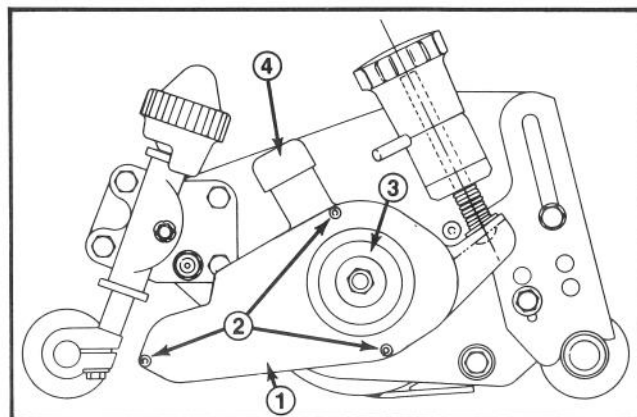
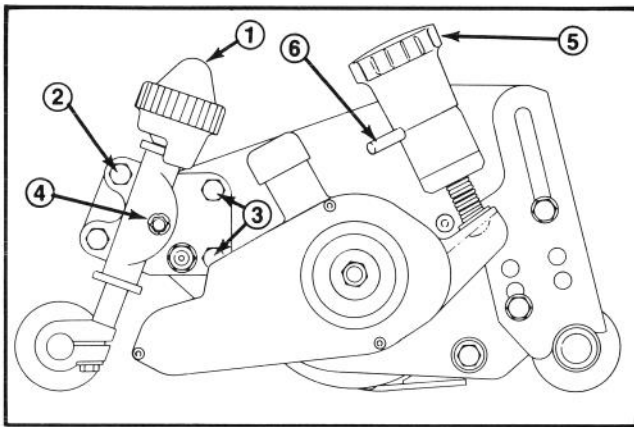

Figure 17
Figure 18
- 2. Belleville washers (2)
14. Install the left housing cover and secure with (3) socket head screws and lockwashers (Fig. 17).
15. Install and secure the clutch engagement knob with (2) allen head screws (Fig. 17).
- 2. Socket head screws and washers (3)
16. Mount the right and left roller extension assemblies over the roller shaft. Use flat head screws and locknuts in the top holes and hex head cap-screws and locknuts in the lower holes to secure the roller extension plates to the side plates (Fig. 18).
Next, fit the height-of-cut brackets against the extension plates and secure loosely with capscrews and lockwashers (Fig. 18). Then, insert a carriage bolt into each plate and height-of-cut bracket from the inside, install a pallet nut from the outside and tighten the assembly. Ensure the pallet nut is properly seated before tightening (Fig. 18). Tighten the remaining fasteners to secure the assemblies to the machine.
18. Check the assembly. Rotate both quick up levers to raise the grooming reel into transport position (Fig. 18). Hold the clutch snubber down and rotate the clutch knob clockwise to disengage the clutch (Fig. 17). Correct any problems and recheck assembly.
3. Hold the clutch snubber down and disengage the clutch by turning the clutch knob clockwise (Fig. 17). Use the Quick Up Levers (both sides) to lower the grooming reel into the grooming position (Fig. 18).
The grooming reel should be disengaged at all times except during grooming. To operate the clutch, depress the clutch snubber and engage the clutch by turning the clutch knob counter-clockwise — turn the clutch knob clockwise to disengage the clutch (Fig. 17).
the grooming reel into its transport (raised) position. To raise the grooming reel, rotate the right and left quick up levers so they face to the rear (Fig. 18). To lower the grooming reel, turn the quick up levers forward and engage the clutch.